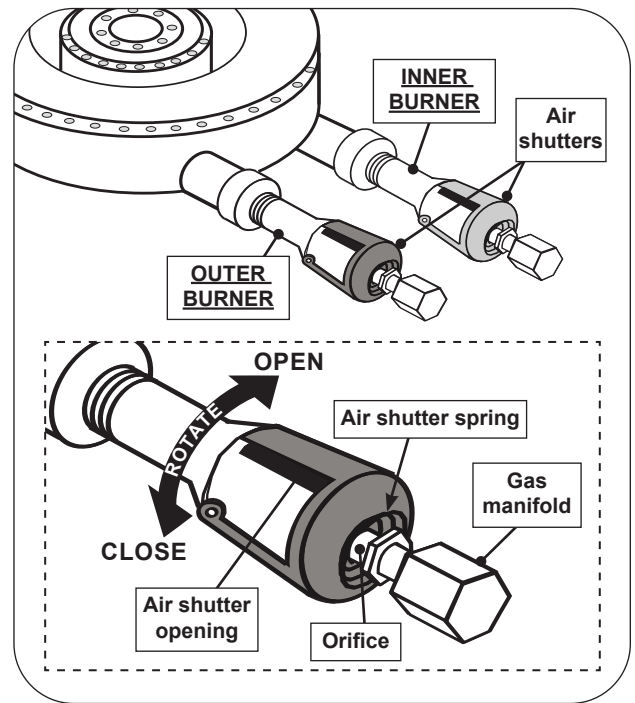

Fig. 51-1 Power burner air shutter adjustment detail
1. To adjust the air shutters, rotate the shutters to open or close them. See Fig. 51-1 for details.